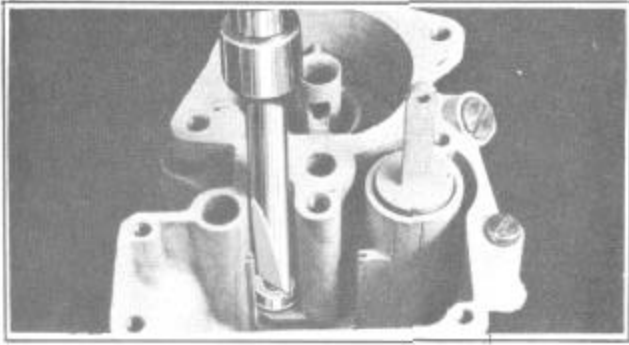

FIGURE 41
15. Install metering rod jet and gasket assembly, Figure 41. Examine for wear.